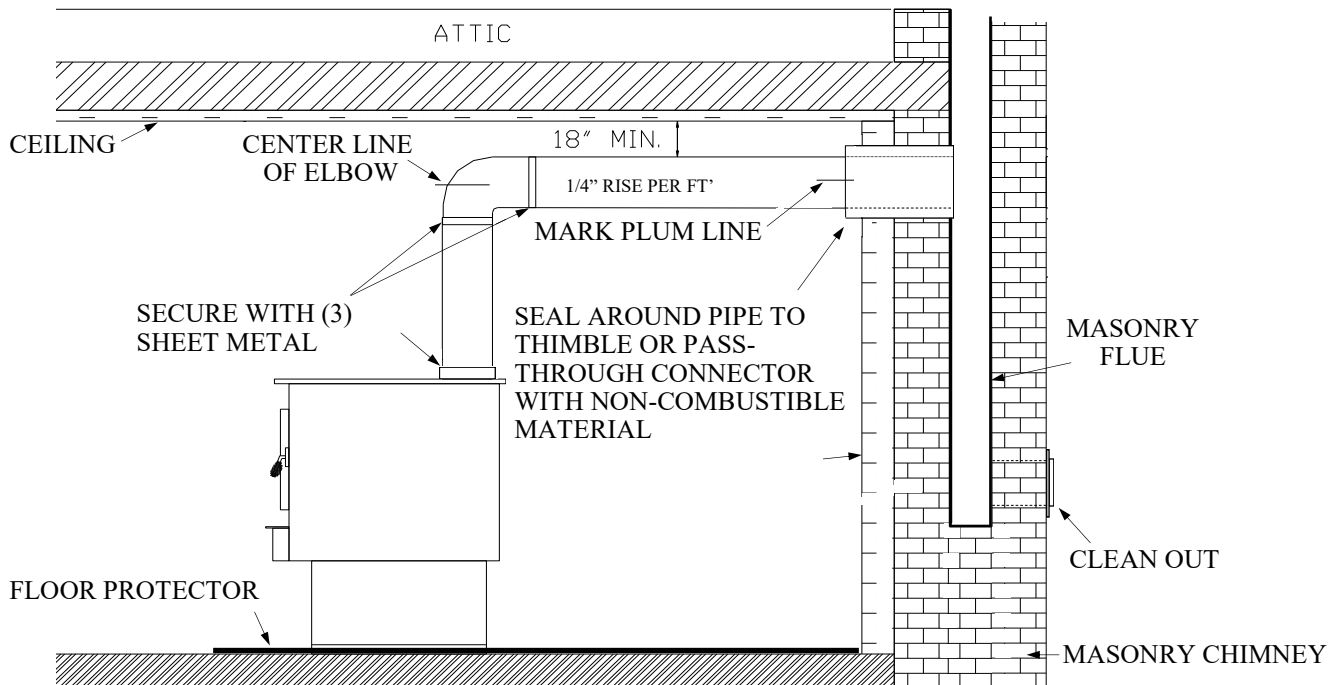

Figure 16
1. Before connecting this unit to a masonry chimney, determine that masonry fireplace wall pass through connector thimble meets **NFPA-211** Code and local building codes and is a minimum of 18" from ceiling. If connector thimble does not meet these codes, the pass through connector must be modified. (See Figure 16).